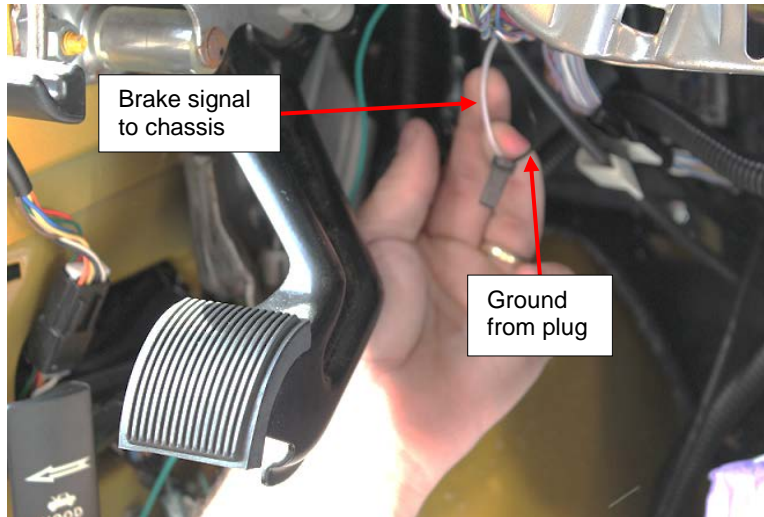

Figure 3: Brake Plug with Ground and Signal Wires
4. Remove the loom from the brake wires at a minimum of 4 inches from the plug. See **Figure 3**.